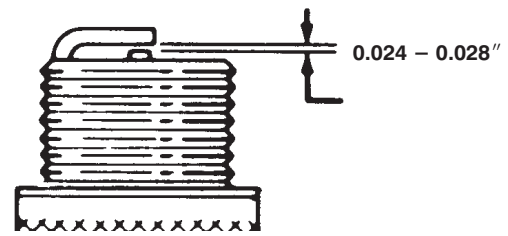

Figure 14
3. Set air gap at 0.024 – 0.028” (Fig. 14). Install correctly gapped spark plug and gasket seal. Tighten plug firmly to 10–12 ft–lb.